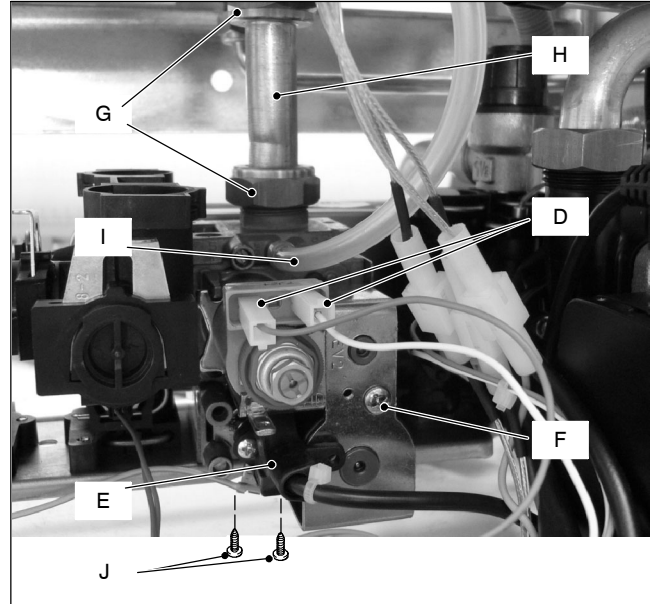

Fig. 5
- 2 Disconnect the connectors *D* (Fig. 5) from the modulating operator and measure the electrical resistance of the coil. Its electrical resistance value must be approx. $80 \Omega^*$.
- 2 Disconnect the electrical connector *E* (Fig. 5).
- 2 Disconnect the connector *E* (Fig. 5).
- 2 Disconnect the connectors *D* and *E* (Fig. 5).